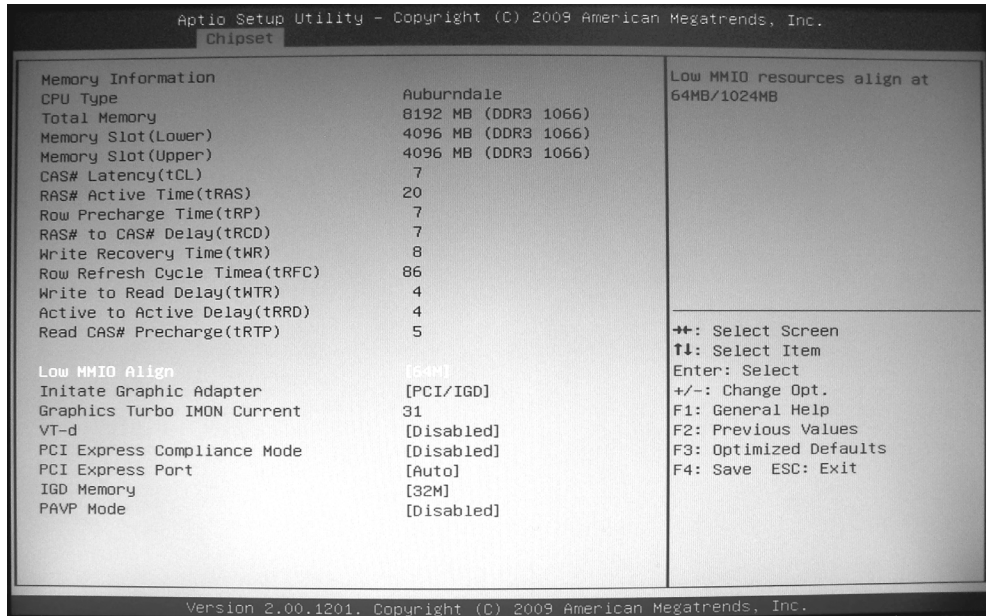

Figure 8 BIOS Chipset North Bridge Menu
- The North Bridge Configuration provides memory and PCIe compliance information. See Figure 8 on the next page.